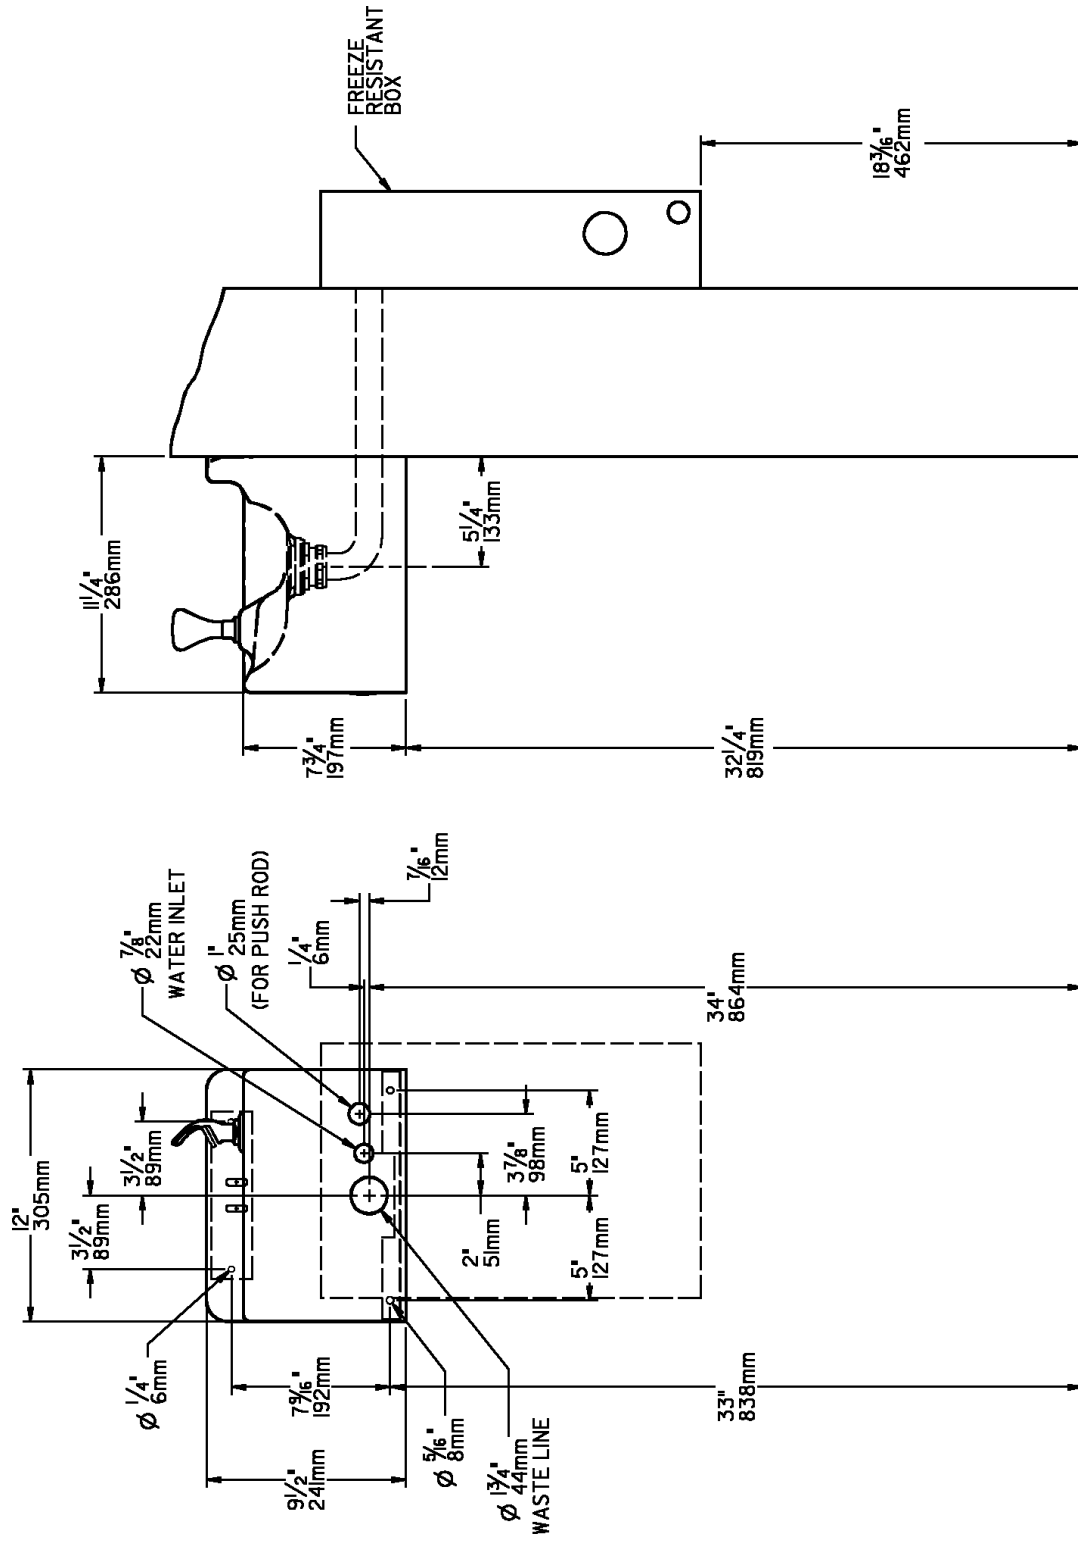

FIG. 3
1. **Wall should already be framed for the fountain using dimensions shown in Fig. 3.**